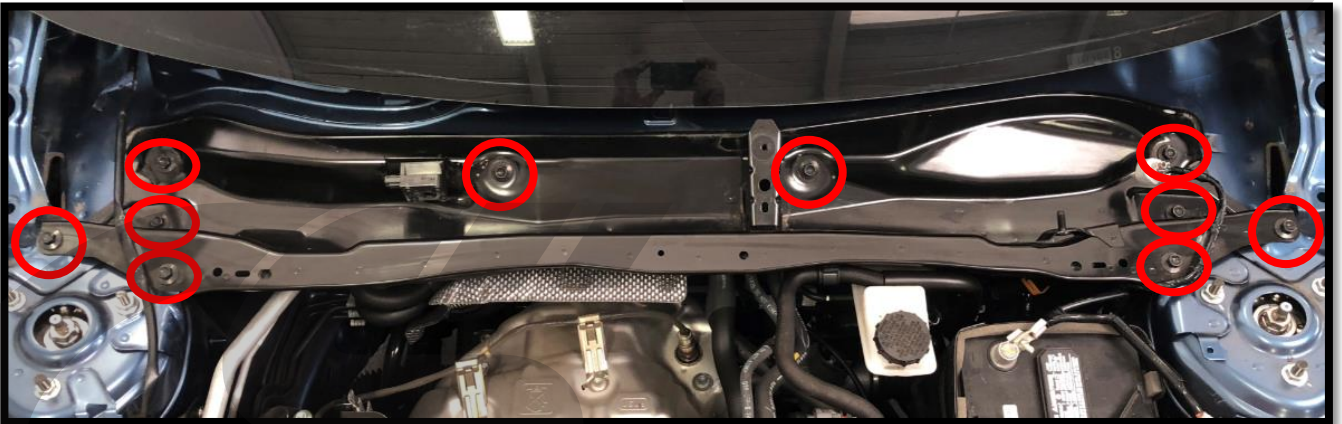

Figure 1l
- s) Remove the ten 12mm bolts that connect the metal portion of the cowl to the vehicle. Shown **circled in red** in **Figure 1l**.